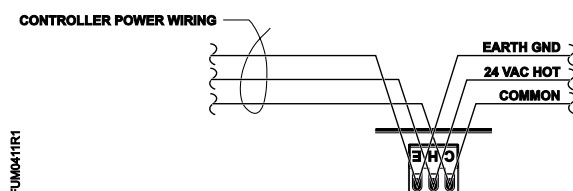

Figure 3. Power Trunk Wiring.
5. After installing all controller boards, verify that power is OFF. Connect a certified 24 Vac Class II power source to the Fume Hood Controller, see Figure 3.